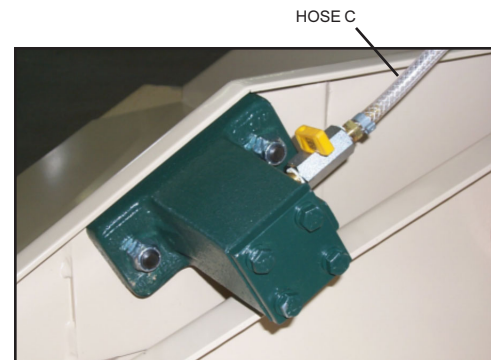

Figure 3
- 8) Bolt the vibrator to the pad on the platform (see **Figure 3**), making sure the button head end of the bolts face inward towards the center of the platform.